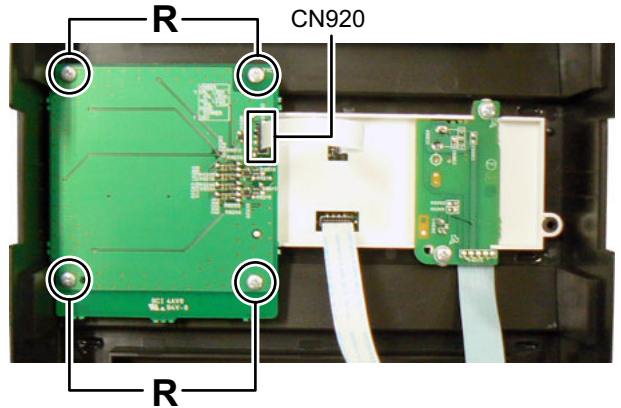

Fig.17
3.1.10 Removing the Touch sensor board (See Fig.17, 18)
- (1) Disconnect card wire from LED board connected to connector **CN920** of the Volume board. (See Fig.17)
- (2) Remove the four screws **R** attaching the Volume board. (See Fig.17)